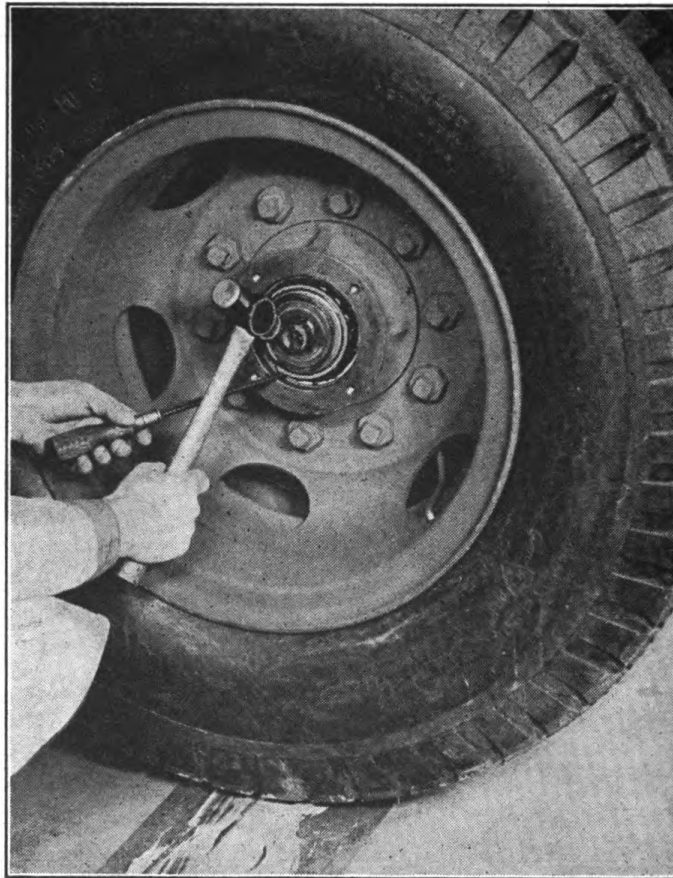

FIGURE 82. REMOVING WHEEL ASSEMBLY.
c. Now, place a screwdriver under outer bearing, pry gently and tap D-washer with a hammer (Fig. 82). D-washer and bearing may also be removed as wheel is pulled off.